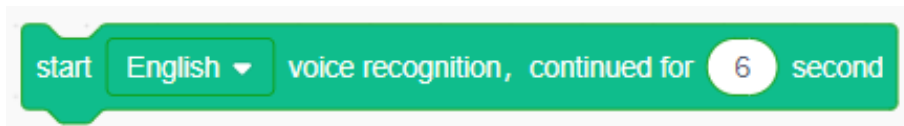

Figure 5.2 "start English voice recognition, continued for 1 second" blocks
Step 2: Drag out the "start English voice recognition, continued for 1 second" block, and change 1 second to 6 seconds, as shown in Figure 5.2.